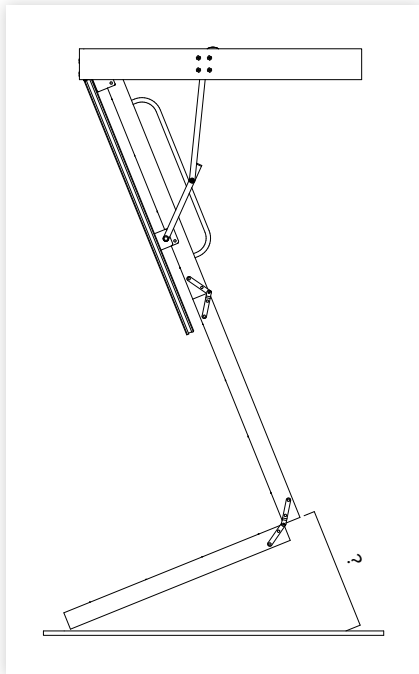

figure 10
1. With the top and middle sections of the ladder open and the bottom section tucked in behind, measure the distance from the bottom of the middle section, to the floor at the same angle as the ladder (figure 10). Do this on both sides.
2. Once you have determined the length of 'x' (figure 10) deduct 38mm for the P30 attic ladder or 60mm for the D28 attic ladder. Transfer these measurements to the front of each side of the bottom section of the ladder. Cut at 90 degrees. You may wish to remove the bottom section to complete this step.